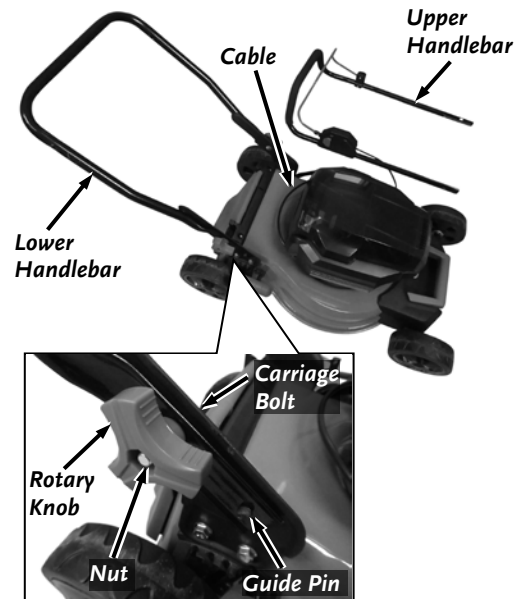

Figure 5
2. Move the Upper Handlebar Assembly off to the side (**Figure 5**). Ensure that the Cable is positioned away from the Lower Handlebar mounting area.